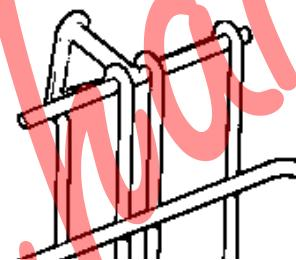

Fig. 5
5. Install Batteries/Cradle, ensure the Cradle is correctly located on the Hangers (Fig.5). Take care when lifting Batteries. To avoid injury be sure to adopt the correct lifting posture, ask for assistance if required.